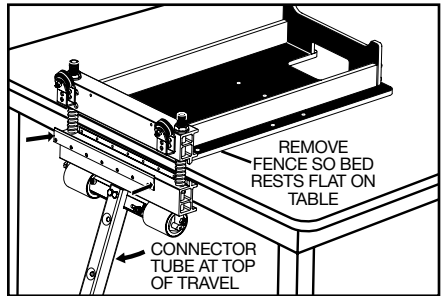

Figure 10
**CHANGING THE BLADE - WARNING:** The blade is extremely sharp, and it can be slippery and difficult to hold. Use extreme caution! The use of gloves is recommended. To remove and replace the blade, first remove the leverage handle, fence, and cut guide. Turn the cutter upside down and place the bed flat on a large, stable surface such as a solid table that will not tip or move (Figure 10). Turning the cutter upside down ensures the blade will rest on the blade carrier during the process due to gravity, and prevents the blade from unexpectedly falling off. Move the connector tube to the top of its travel. This increases the space between the blade and the anvil and provides more room to work.